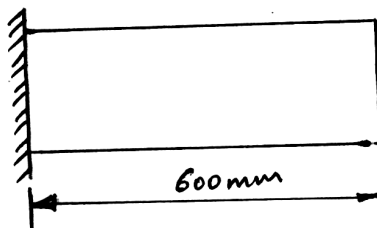

Fig Q10(b)
b. Determine the natural frequency of vibration of the cantilever beam shown in Fig Q10(b). Take $E = 200 \text{ GPa}$, $\rho = 7840 \text{ Kg/m}^3$, $I = 2000 \text{ mm}^4$, $A = 240 \text{ mm}^2$. (10 Marks)